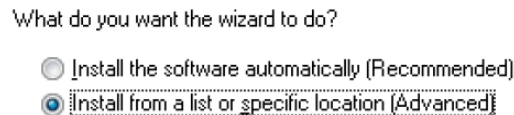

Figure 5. Wizard Options
8. Select *Install from a list or specific location* and click *Next* (see Figure 5).